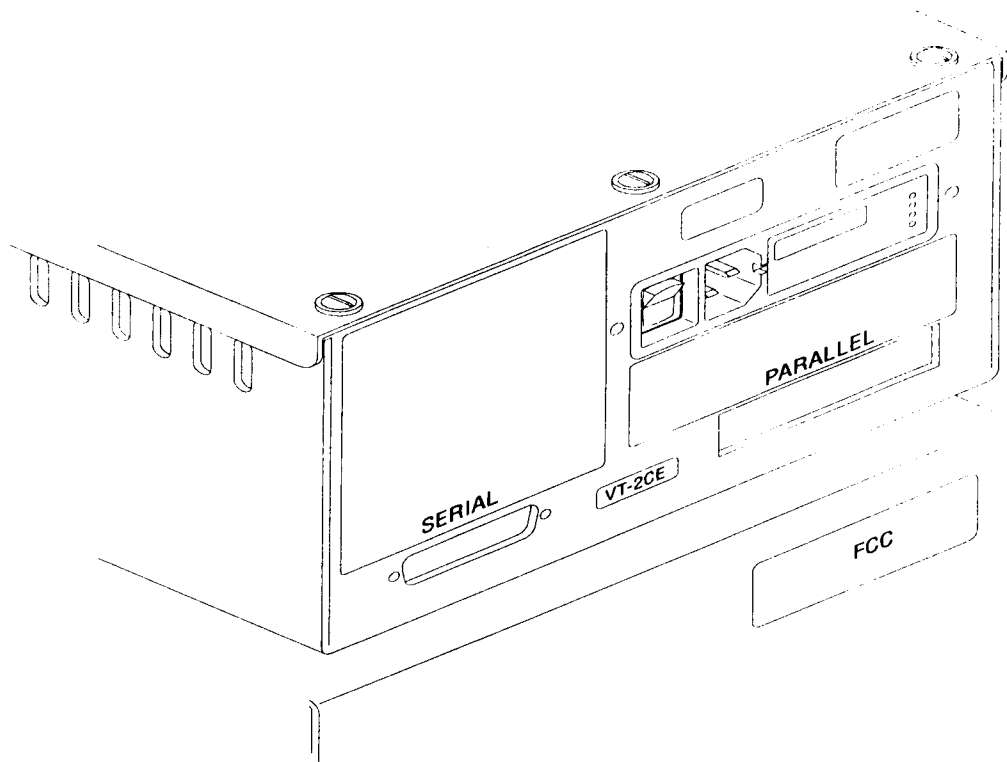

Figure 2.5.2-1. Model VT-1B or VT-2 Rear Panel
1. **Fuses:** The fuses are located in the upper lefthand corner (see Figure 2.5.2-1). (Refer to Section 2.6: Accessories, for fuse part numbers.)